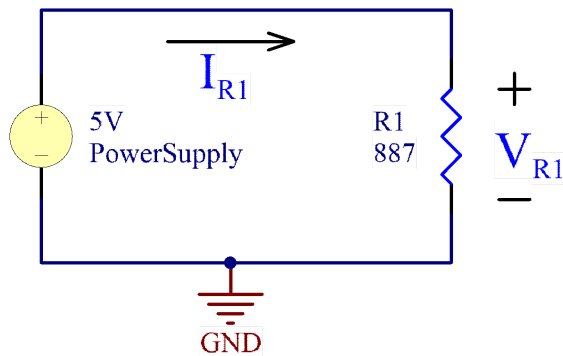

Figure 1: Schematic and Breadboard.
1. In this part, you are required to measure the voltage across R1 and current flowing through R1 (I_{R1}) in the circuit given in figure 1 which is called a schematic diagram of the actual circuit. R1 is 887Ω.
You will build the circuit as shown in the schematic in figure 1 on the proto board. For this setup, you are required to set up a 5V_{DC} source for the Power Supply shown in figure 2. Figure 3 and 4 show examples of how to build the circuit.